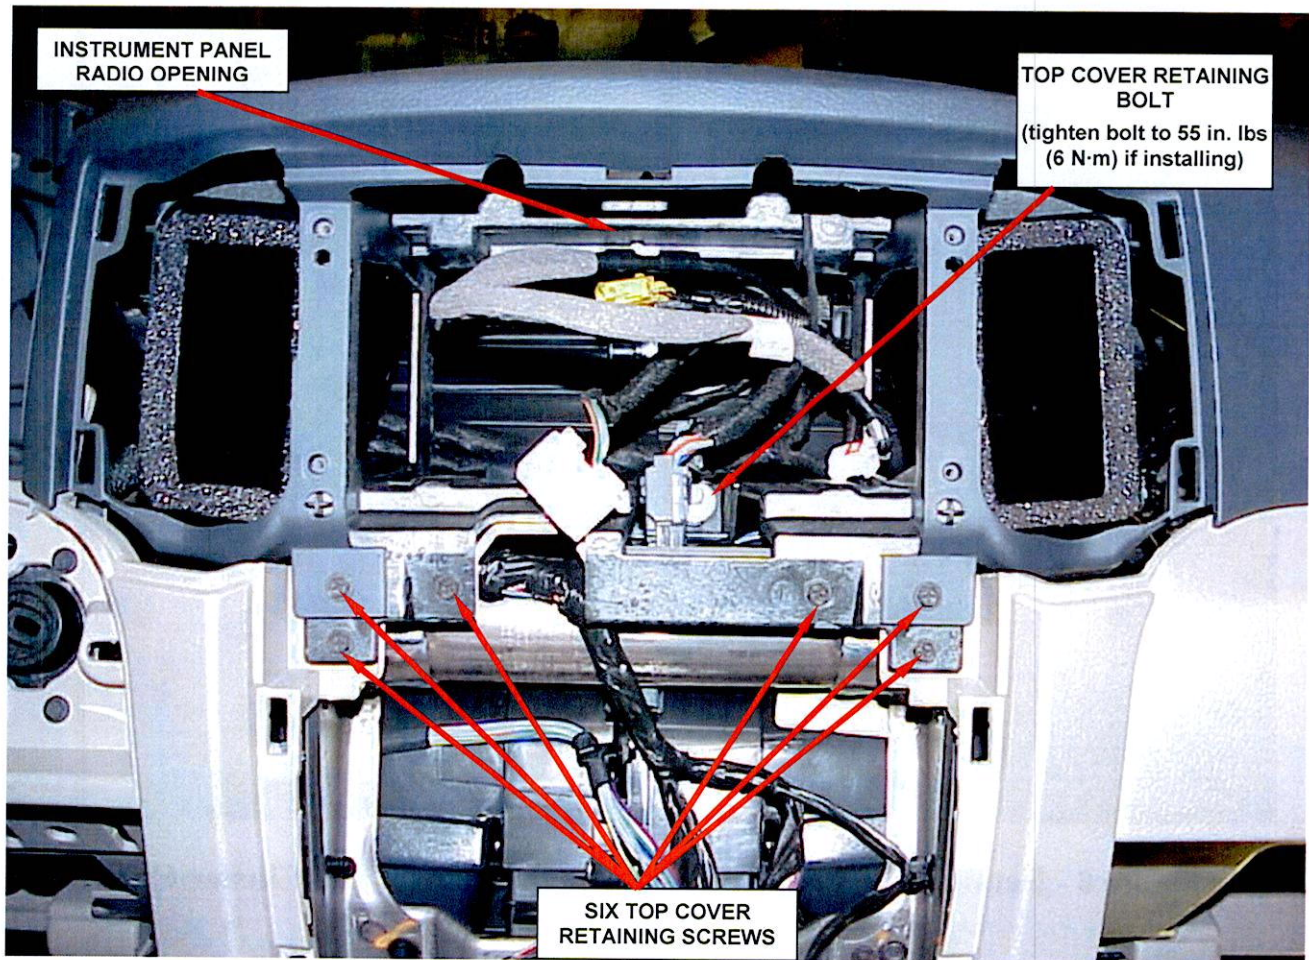

Figure 4 – Retaining Bolt and Six Screws Location
18. Remove the six top cover-to-instrument panel retaining screws and one bolt at the radio opening in the instrument panel (Figure 4).